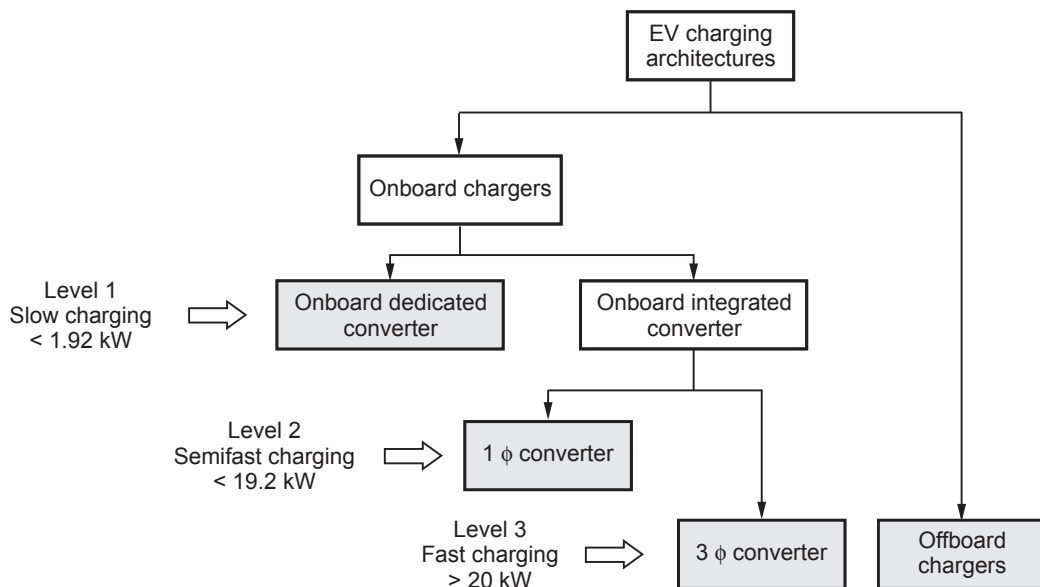

Fig. 6.13.1 EV charging architectures
- **Constant current constant voltage (CC/CV) charging** : This is the most popular charging method used to recharge Li-ion batteries. The battery is charged initially with constant current (CC) and then finally with constant voltage (CV).
- **Five step charging method** : The constant current (CC) charging time is divided into five steps. In each stage, the charging current is set to specific threshold value. The voltage of the battery increases in each stage and the stage is changed when battery voltage reaches pre-set voltage.
- Fig. 6.13.1 shows the classification of electric vehicles battery charging architectures. These architectures are classified depending upon factors such as structure, power rating, charging times, type of connection, location, etc.